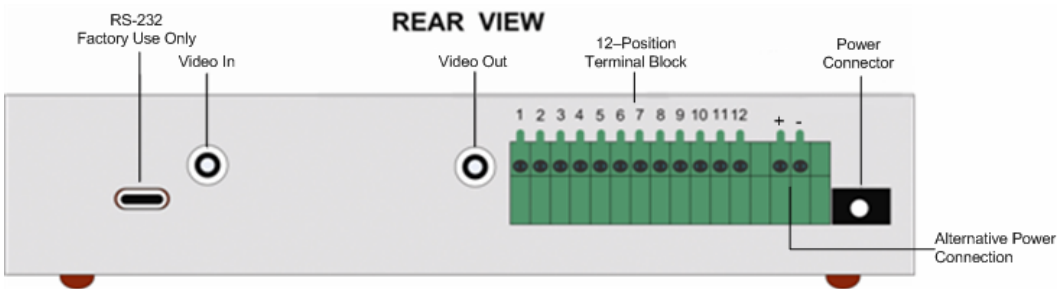

Figure 2 MemoCam D-V56 Unit - Rear View
1. At the rear of the unit, connect the factory supplied power adaptor to the Power connector. See Figure 2 on page 8.
The D-V56 automatically recognizes the following types of camera: CCIR/EIA and PAL/NTSC. The Video connectors (RCA) are located on the rear of the unit as shown in Figure 2 below.
See Figure 2 below.